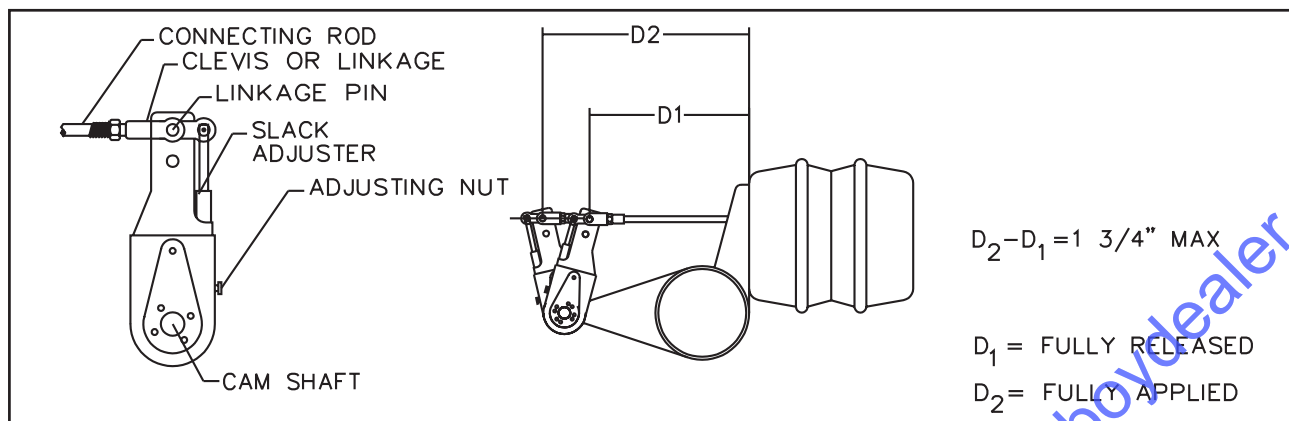

Figure 4-12 Checking Brake Adjustment
4. Disconnect the slack adjuster from the connecting rod by removing the clevis pin (**See Figure 4-12**).
4. Remount the brake chamber on the axle brackets and reconnect the air service hoses and the slack adjuster connecting rod (**See Figure 4-12**).
2. Measure the distance (D1) from the face of the brake air chamber to the center of the slack adjuster linkage pin (See Figure 4-12).
7. Place a 9/16" box end or socket wrench on the slack adjuster adjusting nut (**See Figure 4-12**), and push in on the locking sleeve.